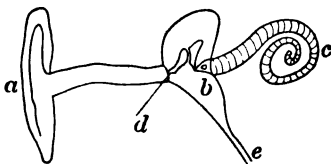

FIGURE 58.—DIAGRAM OF THE EAR.
85. The Ear. — The ear is the instrument with which we receive sound. The receiving is done in accordance with the principle of resonance. Figure 58 shows a section of the ear. The part (a) is that which we can see outside the head, and is called the *external ear*. From this a tube leads into the *middle ear* (b). Over the end of this tube is stretched a membrane (d) called the *ear-drum*. In the middle ear, attached to the ear-drum, is a series of three little bones. The last of these fits up against the end of a spiral tube called the *cochlea* or *inner ear* (c).